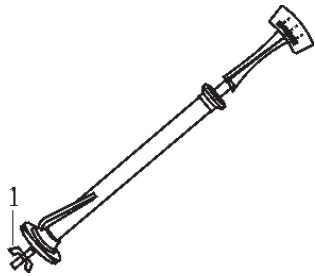
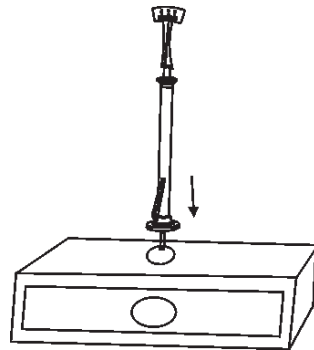

Figure 2
Figure 3
3. Put the support with the scale (Fig. 2) on the wooden base. For this, unscrew the holding screw (2.1) located at the base of the support and put the pin inside the hole of the wooden base (Fig. 3). At the bottom of the wooden base there is also a hole to introduce the hand to fix the holding screw easily.